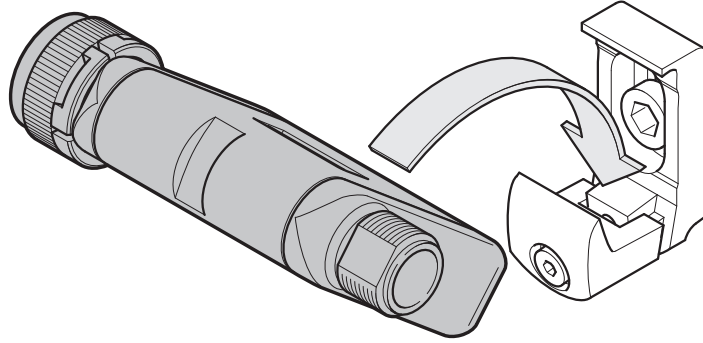

Figure 5: Insert Counter Stick
- ① Nut for M3 screw (position 5)
- ② Lower part
- ③ Washer
- ④ M5 screw, not included in scope of delivery
- ⑤ M3 screw
- ⑥ Washer
- ⑦ Upper part
- ⑧ Spring
- 1 Mount the lower part of the C-Fix bracket on a level surface as shown in Figure 5.
- 2 Mount the upper part on the lower part as shown in Figure 5. Only tighten the M3 screw slightly.